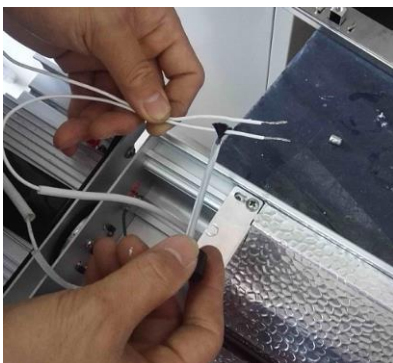

Fig 27
16. Apply a little lubricating oil to two element wires, as shown in Figure 27 below. Then pass them through two hole of the wire sleeve, as shown in Figure 27 and 28 below.